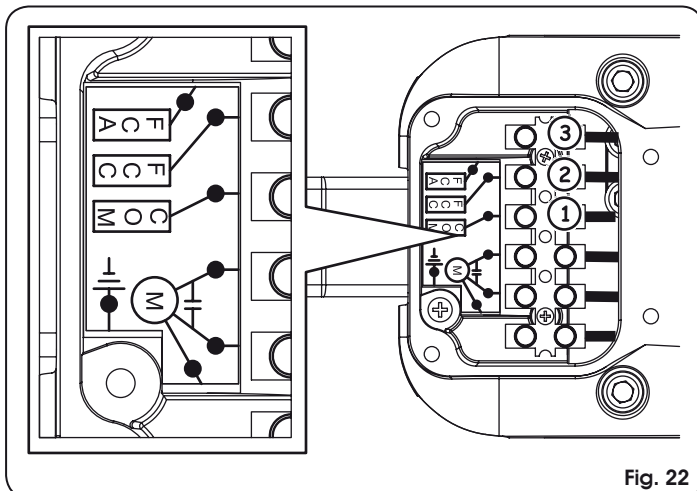

Fig. 22
3. Insert the cable and connect to the terminals of the colors specified in the table below with reference to Figure 22.